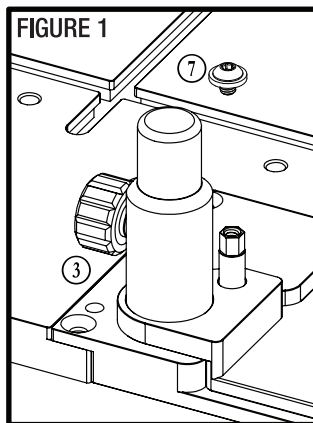

FIGURE 1
1. Remove the Carriage Stop Screw & Nylon Washer ⑦. **Figure 1.**